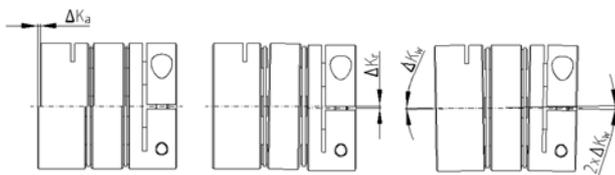

Figure 4
**Example:** The SCL2 series 60 (Figure 4) is compensation for  $\Delta K_a = 0.2\text{mm}$  of axial misalignment. This corresponds to 20% of the maximum permissible offset of 1mm. Angular misalignment is measure at  $\Delta K_w = 0.4$  degrees, which is 40% of the permissible maximum value of 1 degree. Lateral offset will be limited to 40% of the maximum value of 0.345mm which is  $\Delta K_r = 0.14\text{mm}$ .  $\Delta K_{\text{total}} = \Delta K_r + \Delta K_w + \Delta K_a \leq 100\%$